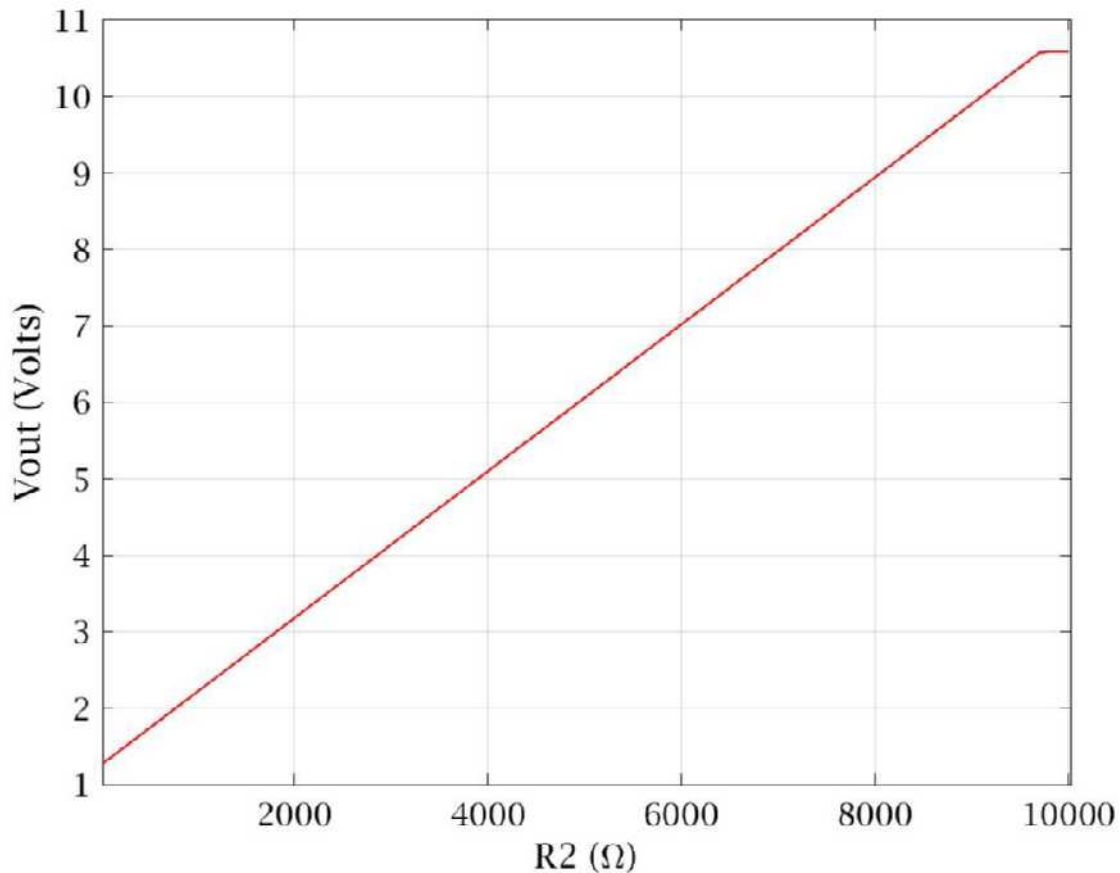

Figure 6. Output voltage vs. value of R2 modeled with measured and optimized R1.
5. Figure 6: The first schematic diagram is often the simplest circuit to use (test) the IC, and it's followed by what we might call the characteristic equation that describes the circuit's operation, both copied in Fig. 3:
Design an LM317 power supply with $R2 = 10k$ pot, and find the value of an optimal $R1$ such that the slope intersects intersects with V_{max} just before the maximum of R2 (as in Fig. 6). You could do this by algebraically manipulating the characteristic equation (in Fig. 3), but perhaps a much easier approach is trial and error. Iteratively tweak the value of $R1$ above and rerun the simulation (click the "Run" button in the Live Editor top taskbar) until you get close to the desired result (Fig. 6).